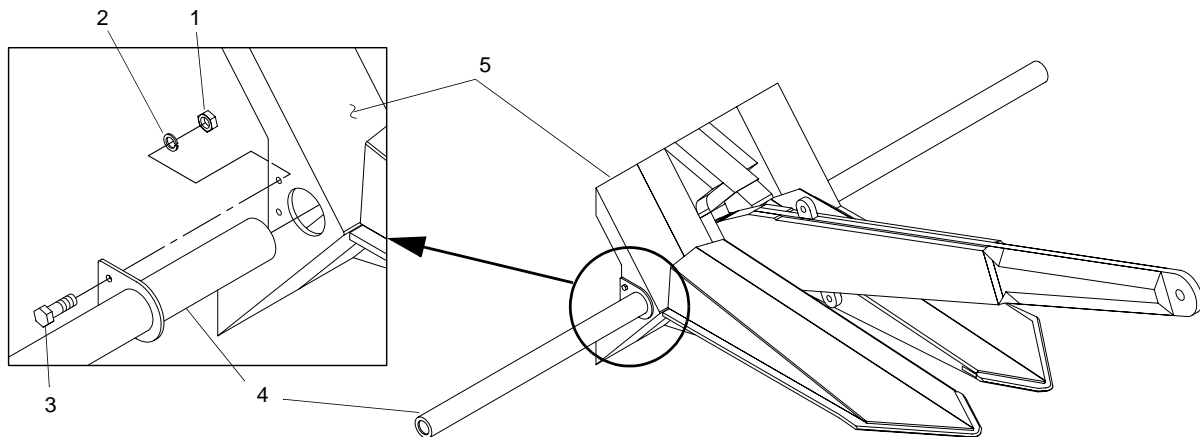

Figure 22. Anchor Stabilizer Removal
9. Remove nuts (figure 22, item 1), washers (figure 22, item 2) and bolts (figure 22, item 3) securing stabilizers (figure 22, item 4) to all anchors (figure 22, item 5). Keep hardware for later use.
10. Remove stabilizers (figure 22, item 4) from all anchors (figure 22, item 5).